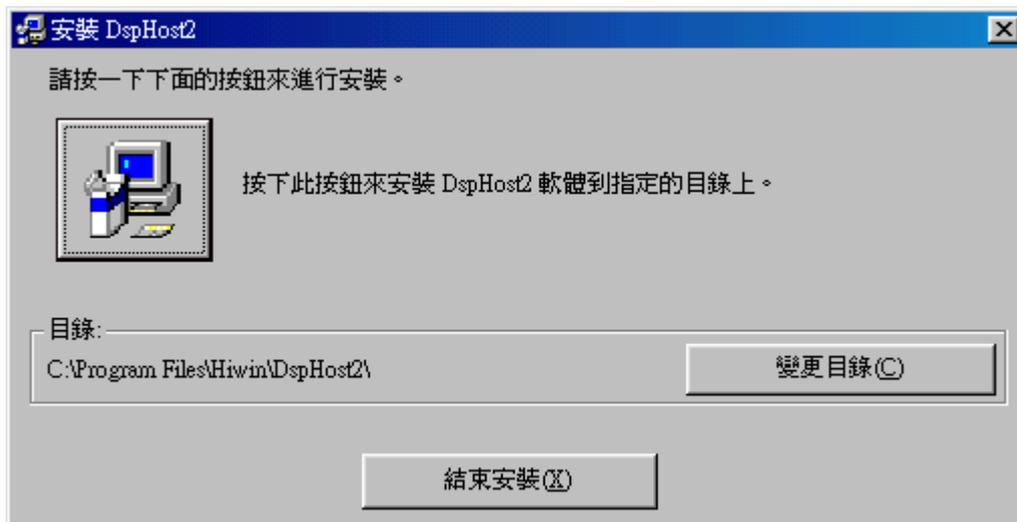

Fig. 2
2. Click OK to confirm and Fig. 2 shows up.
3. As shown in Fig. 2, the default directory for installation is C:\Program File\Hiwin\DspHost2\, it is also possible to change the directory. Clicking the install icon, it will start installing DspHost2 and Fig. 3 shows up.